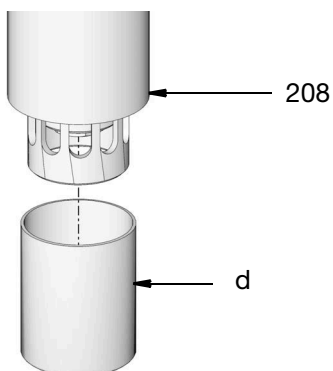

FIG. 6
- Remove the protective cap (d) from the pump down-tube (208) (FIG. 6). Discard the cap.